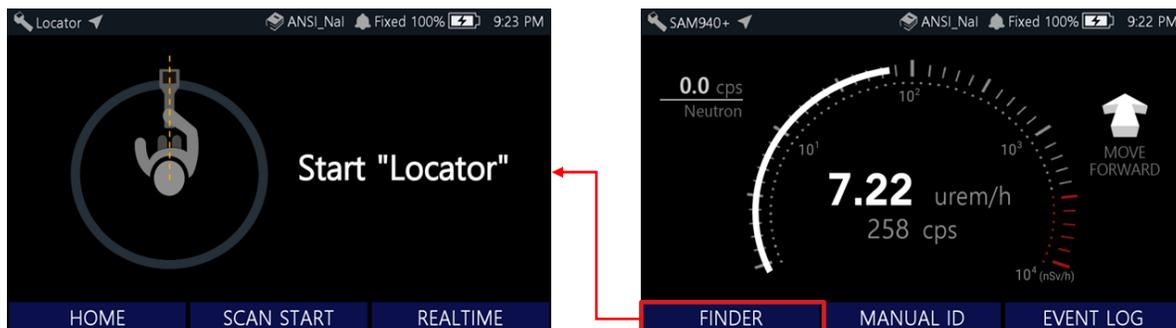

Figure 5.9.1. Access to LOCATOR Screen
1. Access to **LOCATOR** screen by selecting **FINDER** button as shown in figure 5.9.1.